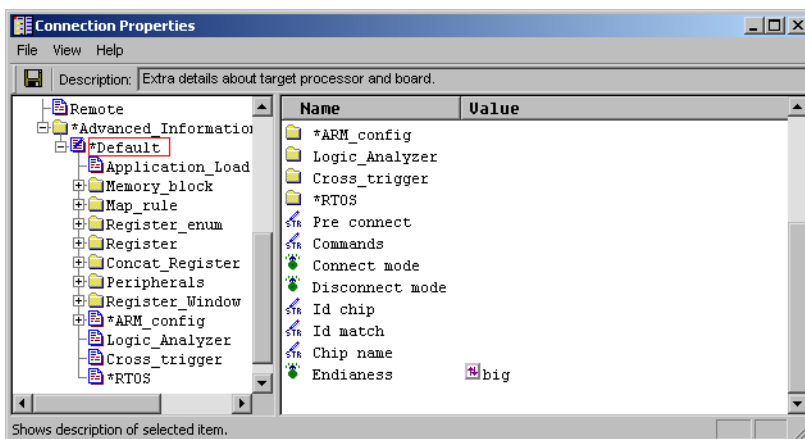

Figure 15-9 Default group in the Connection Properties window
4. Double-click on the Default group, in the right pane, to see the Connect_mode and Disconnect_mode settings, shown in the example in Figure 15-9.
As shown in Figure 15-9, configure connection behavior in your board file using the settings: